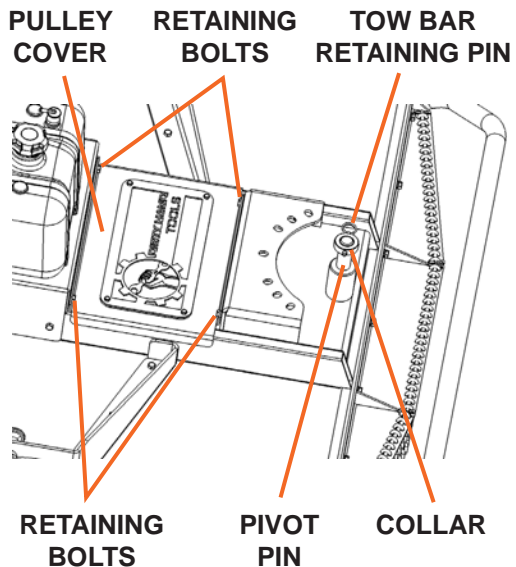

Figure 2
1. Locate and remove the tow bar retaining pin and collar from the pivot pin on the front of the mower deck (see Figure 2).
2. Using a 13mm wrench or socket, remove the four (4) bolts, and washers that retain the pulley cover, remove and set aside (see Figure 2).